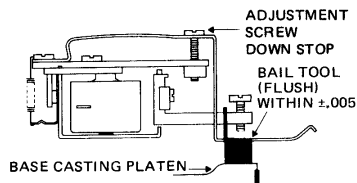

FIGURE 3 HEAD LOAD ACTUATOR DOWN STOP ADJUSTMENT
- Adjust down stop so that the top of Head Load Bail is flush with top of tool within  $\pm .005$ " at track 76. Reference Figure 3.